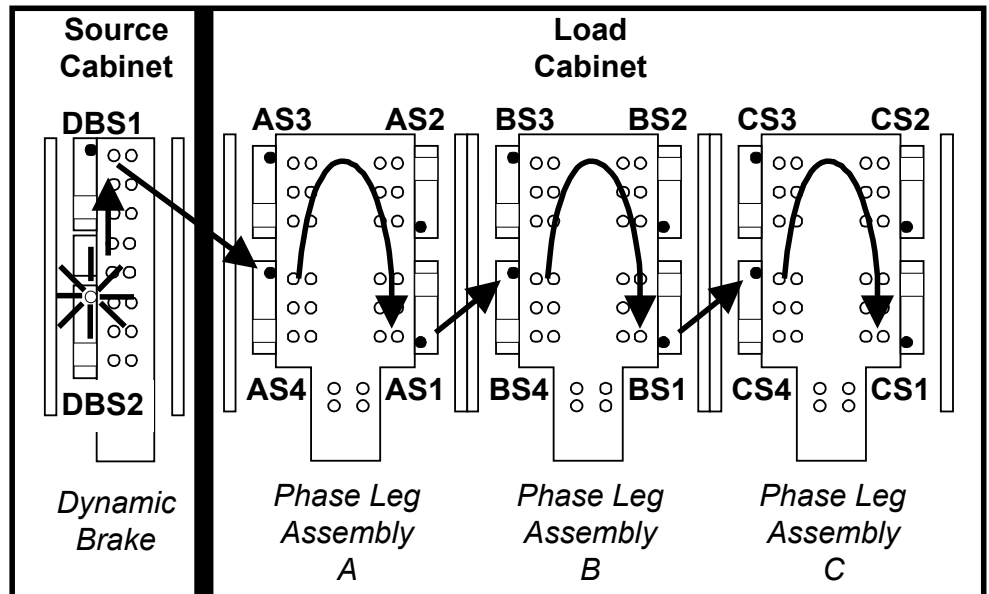

Figure 1. Physical Diagram of Correct LED Lighting Sequence
4. From the drive cabinet, observe the LED lighting sequence. The LEDs are located on the IGBT gate driver boards (IGDM). If the observed LED lighting sequence matches the correct LED lighting sequence (See Figure 1), then the test passed.
Figure 1 shows the dynamic brake and phase assemblies inside the drive cabinets. The dynamic brake assembly on the left is located in the source cabinet. The phase leg assemblies are located in the load cabinet.